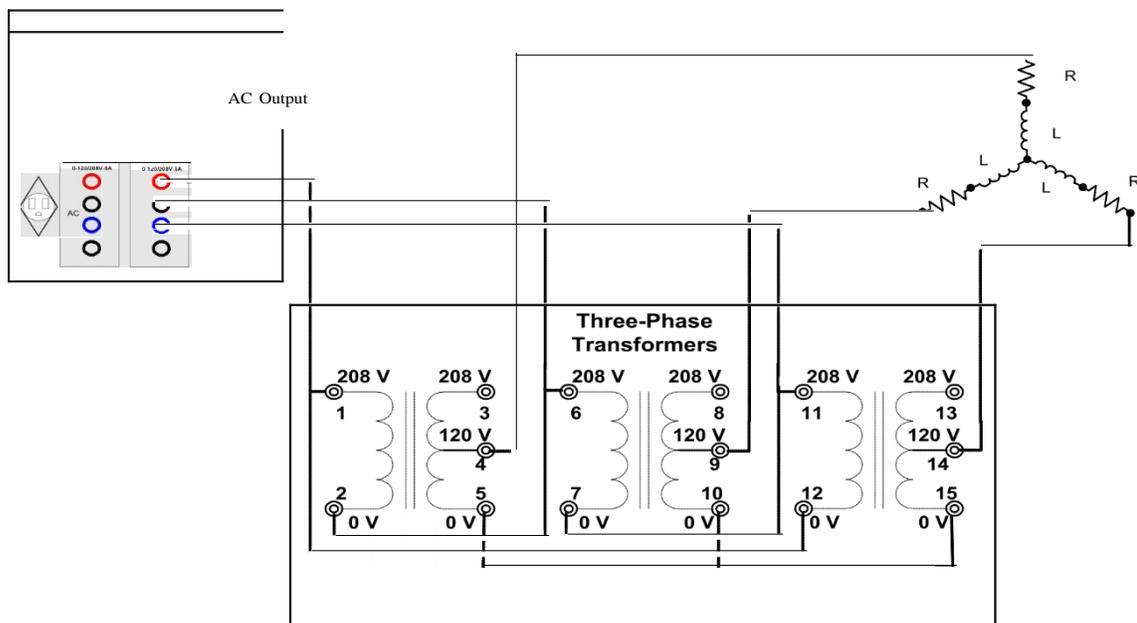

FIGURE 5.14
Step 1: Connect the circuit shown in Figure 5.14. Neutral connection will not be used. Use the variable output of the power supply as your power source. The single-phase transformer ratio to be used is #3: 1. Adjust the power supply line-to-line voltage to 120 V. $R=771.4\Omega$ and $L=300\text{mH}$